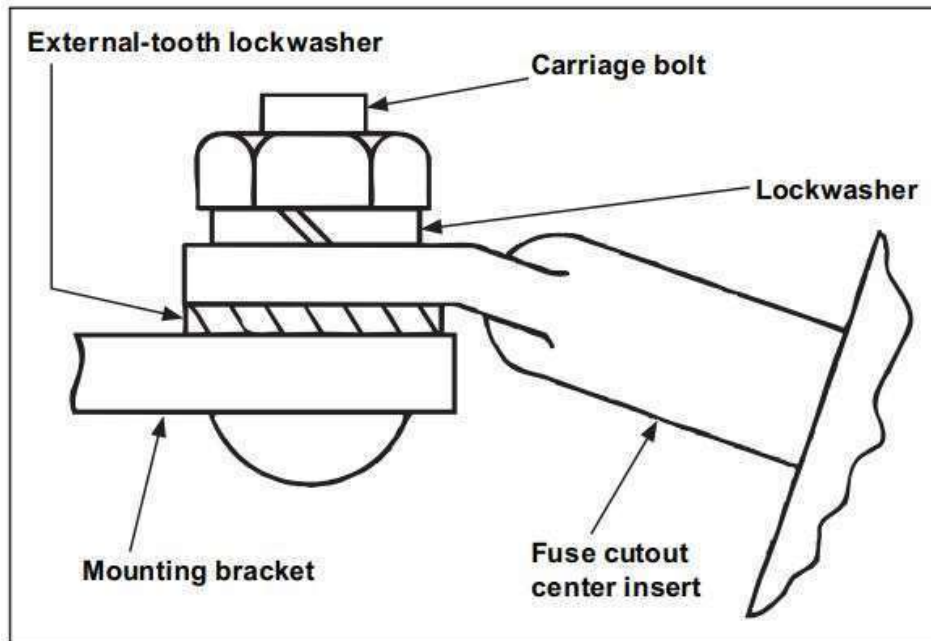

Figure 1. Detail of attachment of fuse cutout to mounting bracket.
STEP 1 Attach the fuse cutout to a suitable mounting bracket as illustrated in Figure 1.
STEP 2 Mount the fuse cutout on the mounting bracket, as shown in Figure 1, with the carriage bolt nut snug but loose enough for pivot adjustment. Note the placement of the external-tooth lockwasher between the fuse cutout center insert and the mounting bracket. See Figure 1.